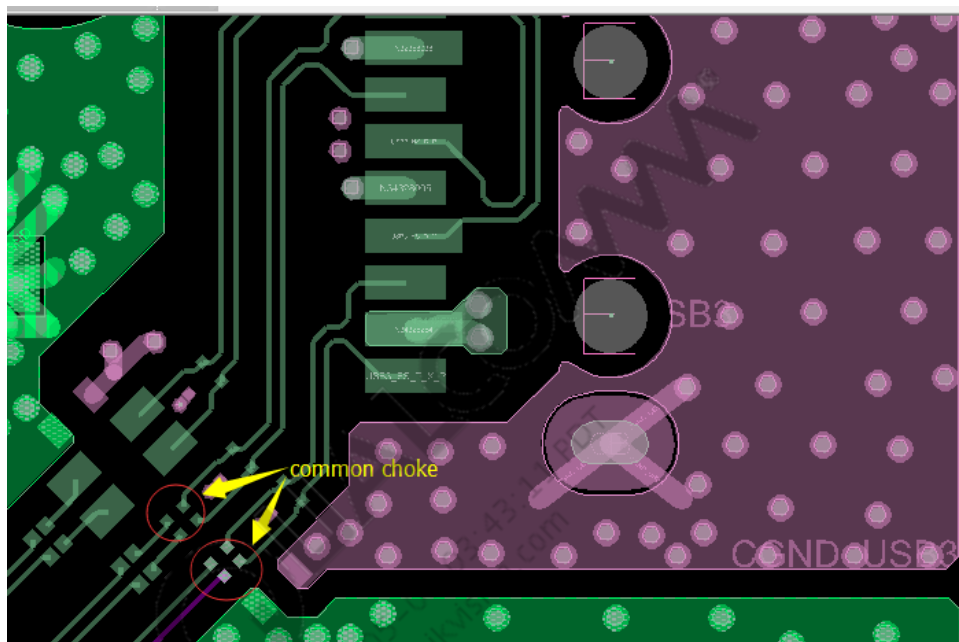

Figure 6 Common mode chokes on USB Tx and Rx
- Add common mode chokes on the USB Tx and Rx lines as shown in Figure 6.